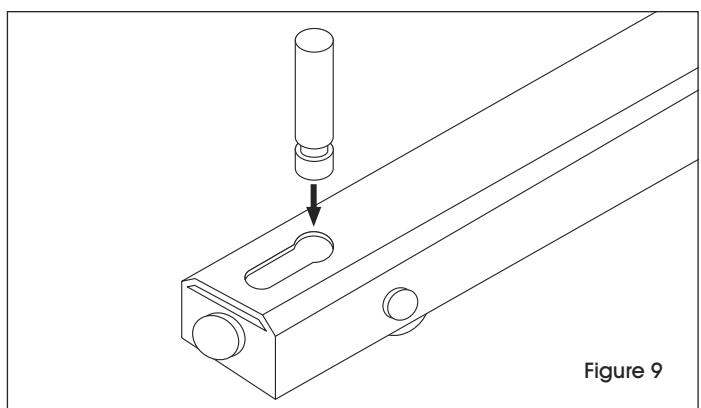

Figure 9
3. Insert pins into roller assemblies. (See Figure 9)